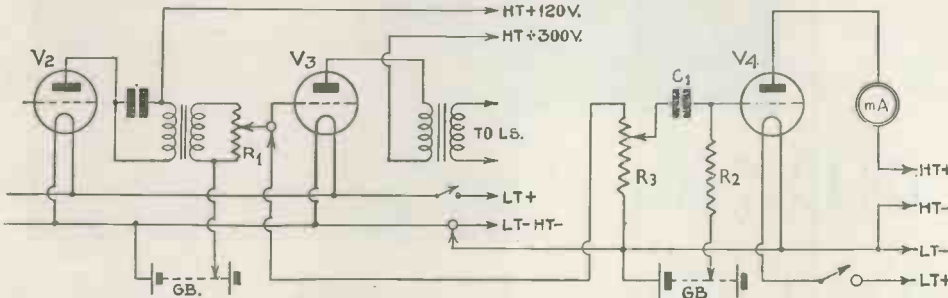

Fig. 2.—A refinement is the use of a volume indicator
A refinement useful to include in the circuit for recording purposes is as shown in Fig. 2. The object of this is to serve as a volume indicator whilst making a record, for listening by loud-speaker or telephones does
The effect of varying the peak-value indicating meter (Fig. 2) can then be observed, and whether distortion is evident when this is at its maximum.
As regards (2), the procedure is to fade out the programme to a minimum volume by means of R_1 (Fig. 2) and put a recording blank on the
If there is no obvious distortion, it is satisfactory and the maximum peak value as shown by the meter (Fig. 2) should be noted for future use. If distortion appears, volume should be reduced by the aid of the volume control R_p , when the deflection of the needle will not be so great.